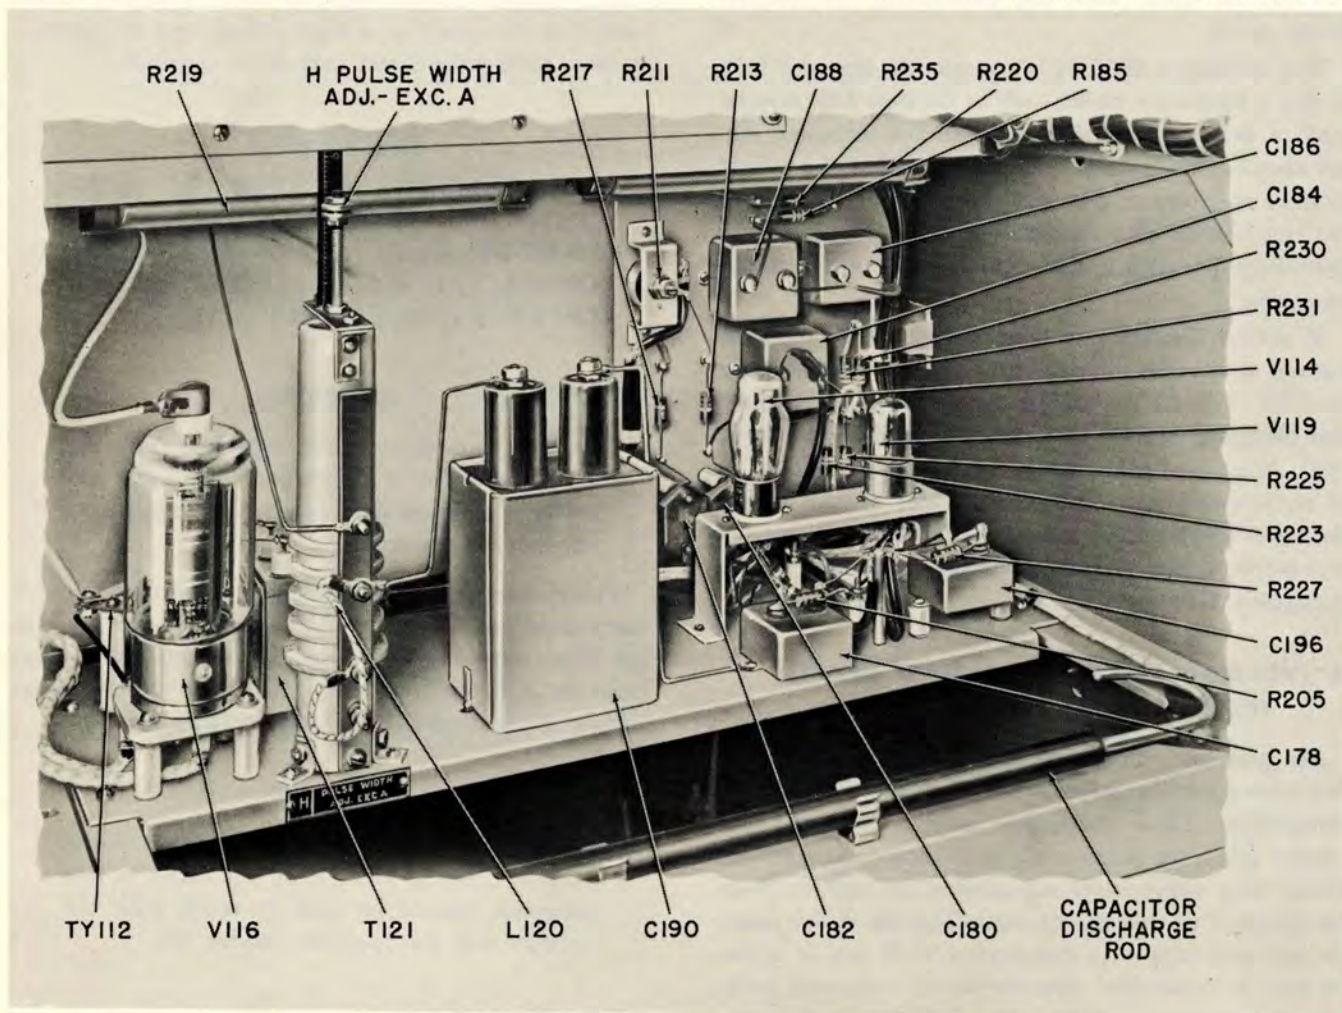

Figure 7-15. Pulse-Forming Section, Exciter A
a. FAILURE OF MODULATOR PLATE CIRCUIT PULSE-FORMING CAPACITOR. — If either modulator plate circuit pulse-forming capacitor (C190 or C191) should fail, pulse generation in the associated exciter unit would stop or become intermittent. In the event of intermittent or no pulse output, therefore, look for an open or shorted pulse-forming capacitor in the malfunctioning exciter unit. The locations of these capacitors may be seen in figures 7-15 and 7-16.
(2) OTHER CHECKS. — If the trouble can be isolated as occurring in connection with only one of the two exciter circuits, this will obviously indicate that no trouble is occurring in the IPA or PA stages. In this case all effort can be concentrated on the particular exciter involved and no time need be wasted monitoring IPA or PA output pulses until a correct output has been obtained from the exciter involved.
(3) REMEDIAL MEASURES. — If the bias pulse from the squaring amplifier V119 or V120 is found to be defective, check the setting of the potentiometer R211 or R212, respectively. R211 is a screw-driver adjustment located near the large group of plate pulse-forming capacitors which are accessible when the right rear access door is open. R212 is located similarly except that it is accessible when the left rear access door is open. Note figures 7-15 and 7-16, respectively. If the pulse cannot be corrected with this adjustment, check further in the squaring amplifier circuit. Check the tube(s), circuit voltages and resistances involved, as required.